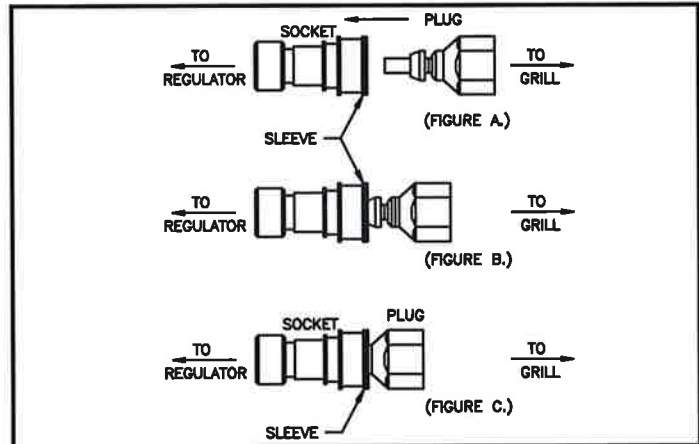

Figure 4 Quick Disconnect
8. To disconnect, insure that the Burner Output Knob is in the OFF position, Disconnect the Regulator Assembly using the "Quick Disconnect Instructions" (See Figure 4, Page 6) and unthread the LP Cylinder from the Regulator. Replace the protective cover on the disposable LP Cylinder.
(See Figure 4, Page 6)
7. Remove the protective cover from the appliance connection. Attach the hose end of the regulator to the grill using the "Quick Disconnect" Instructions. (See Figure 4, Page 6)